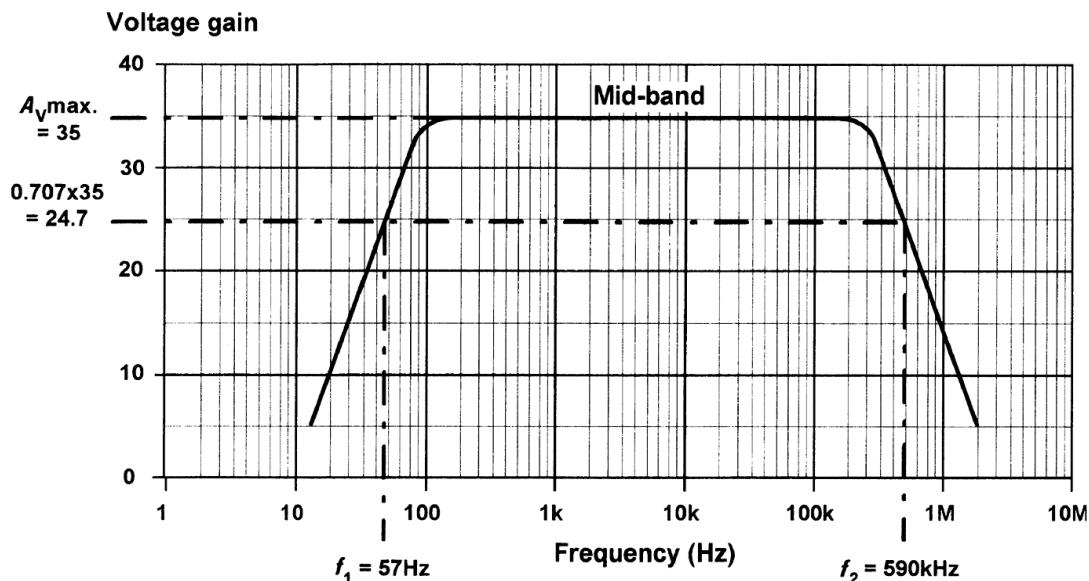

**Fig.16. Frequency response and bandwidth a) output power Vs frequency b) output voltage Vs frequency**
**Frequency response:** It is the graph plotted for gain versus input frequency of an amplifier. The frequency response of an amplifier is usually specified in terms of the upper ( $f_2$ ) and lower ( $f_1$ ) cut-off frequencies of the amplifier. These frequencies are those at which the output power has dropped to 50% (otherwise known as the **-3 dB points**) or where the voltage gain has dropped to 70.7% of its mid-band value. Fig. 16 show how the bandwidth can be expressed in terms of either power or voltage.
**Bandwidth:** The bandwidth of an amplifier is usually taken as the difference between the upper and lower cut-off frequencies (i.e.  $f_2 - f_1$  in Fig.16). The range of frequencies within a band is known as bandwidth.